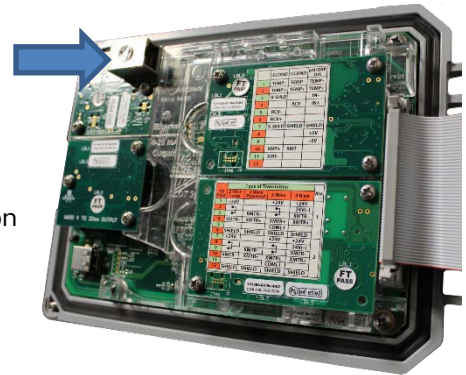

Figure 1
- 4) Locate ethernet board on back of front panel (Figure 1)